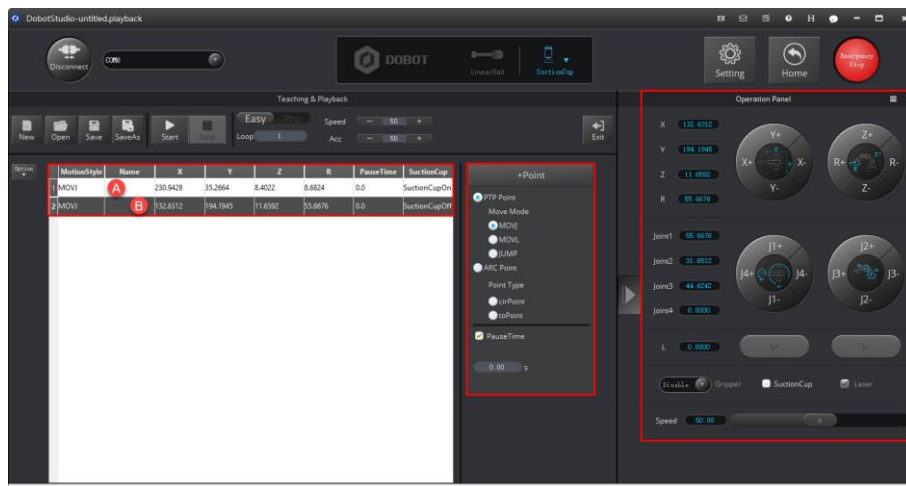

Figure 5.30 Save the end position B
5. Click **+Point** to save the coordinate corresponding to the position B, as shown in Figure 5.30.